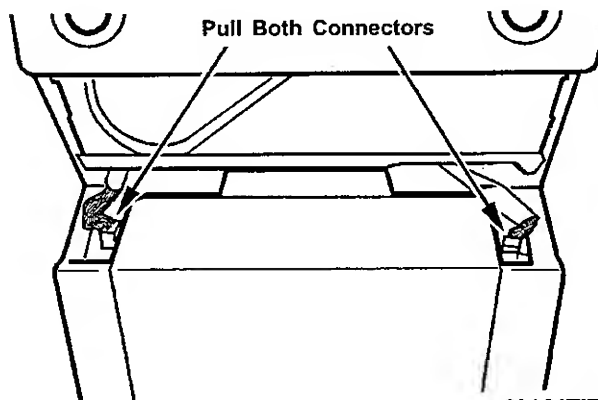

Figure 5-5
3. Disconnect the electrical connectors, by squeezing the retaining clips on the connectors and gently work the connectors out of the sockets (*Figure 5-5*).
3. Disconnect the electrical connectors by squeezing the retaining clips and gently working the connectors out of the sockets (**Figure 5-5**).